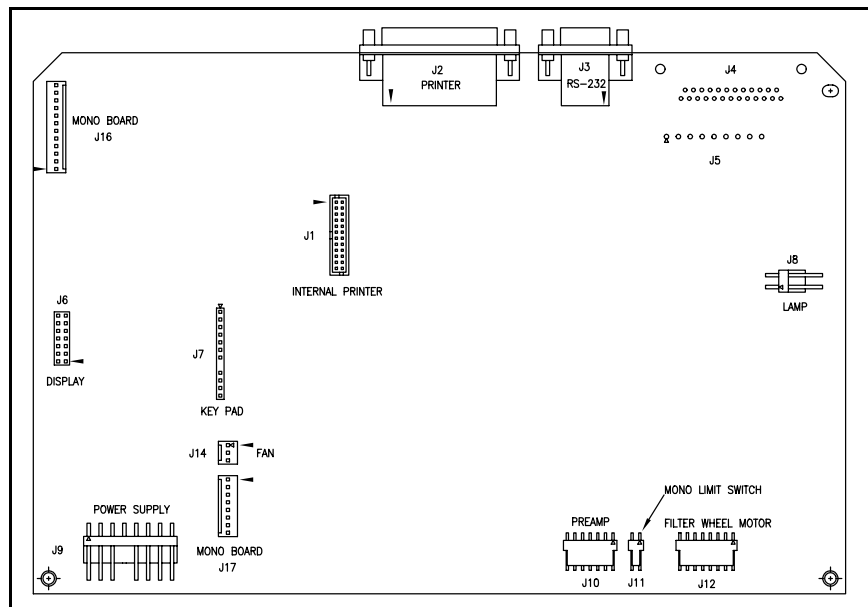

Figure 9.4 - Connections to Main Board
8. Set the cover assembly on its side and carefully disconnect the key pad and display cables from the main circuit board (refer to Figure 9.4, 9.7).
9. Attach the cable for the display to the connector on the main board. Make sure Pin 1 of the cable is lined up with Pin 1 of the connector. Pin 1 of the cable is indicated by the red stripe on the edge of the cable. Pin 1 of the connector is indicated by an arrow in Figure 9.4, 9.7.